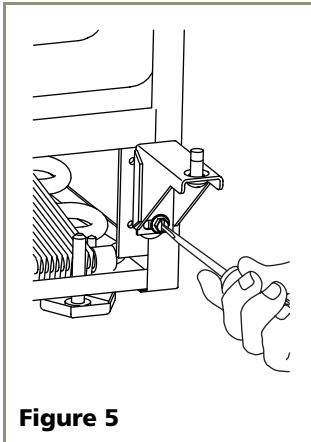
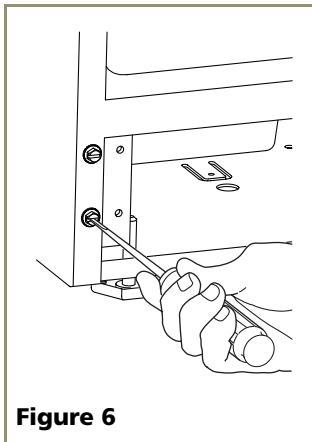

Figure 5
Figure 6
3. Remove bottom hinge from cabinet (two screws). See **Figure 5**. Remove screws on opposite side of cabinet (**Figure 6**). Note that there may be a nut behind one or both screws on either side.
- Remove bottom hinge bracket from cabinet (two screws). See **Figure 5**. Remove screws on opposite side of cabinet (**Figure 6**). Note that there may be a nut behind one or both screws on either side.